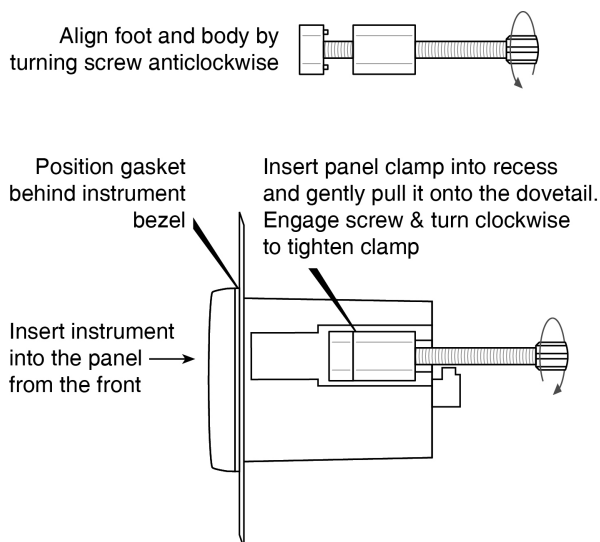

Fig 7 Fitting panel mounting clamps
- Place a clamp in the recess on each side of the Rate Totaliser, pulling gently to slide it onto the dovetail as shown in Fig 7. Push the knurled screw slightly forward to engage the thread and tighten by turning clockwise until it is just finger tight. When the clamps are fitted ensure that the gasket behind the front panel bezel is correctly positioned before fully tightening the clamps to secure the instrument. The maximum recommended clamp tightening torque is 22cNm (1.95 lbf in) which is approximately equivalent to finger-tight plus one half turn. **Do not over tighten.**